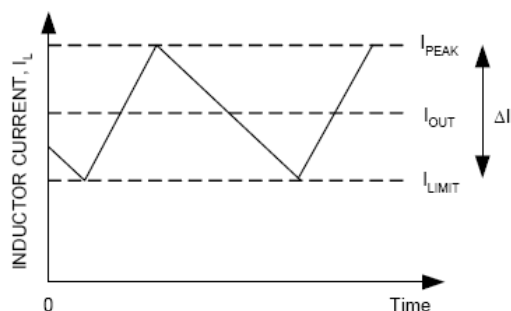

Figure 2. Current-Limit Algorithm
The current-limit circuit employs a "valley" current-sensing algorithm (See Figure 2). The LPD2125 uses the low-side MOSFET's RDS(ON) of the synchronous rectifier as a current-sensing element. If the magnitude of the current-sense signal at PHASE pin is above the currentlimit threshold, the PWM is not allowed to initiate a new cycle. The actual peak current is greater than the currentlimit threshold by an amount equals to the inductor ripple current. Therefore, the exact current-limit characteristic and maximum load capability are the functions of the sense resistance, inductor value, and input voltage.